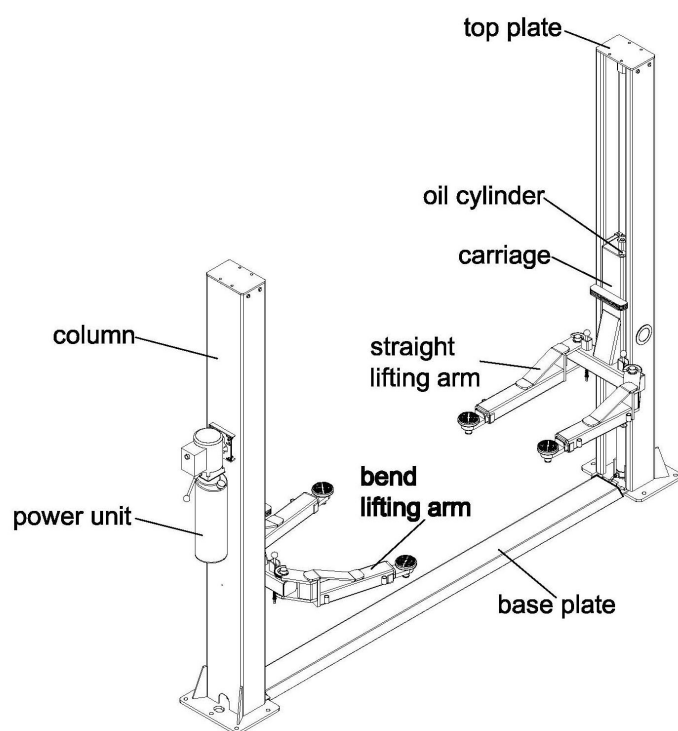

Fig 2
2.3 Construction of the lift (**Fig 2**)